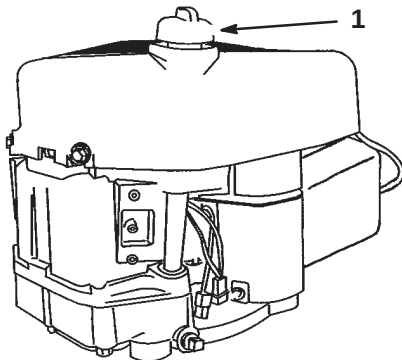

Figure 15
2. Clean around the oil dipstick (Fig. 15) so that dirt cannot fall into the fill hole and damage the engine.
6. Clean around the oil dipstick and unscrew the cap (Fig. 15).
- Slowly pour approximately 80% of the specified amount of oil, page 20, into the fill hole (Fig. 15). Check the oil level; refer to Checking the Oil Level, page 20. Slowly add additional oil to bring the level to the Full mark on the dipstick.